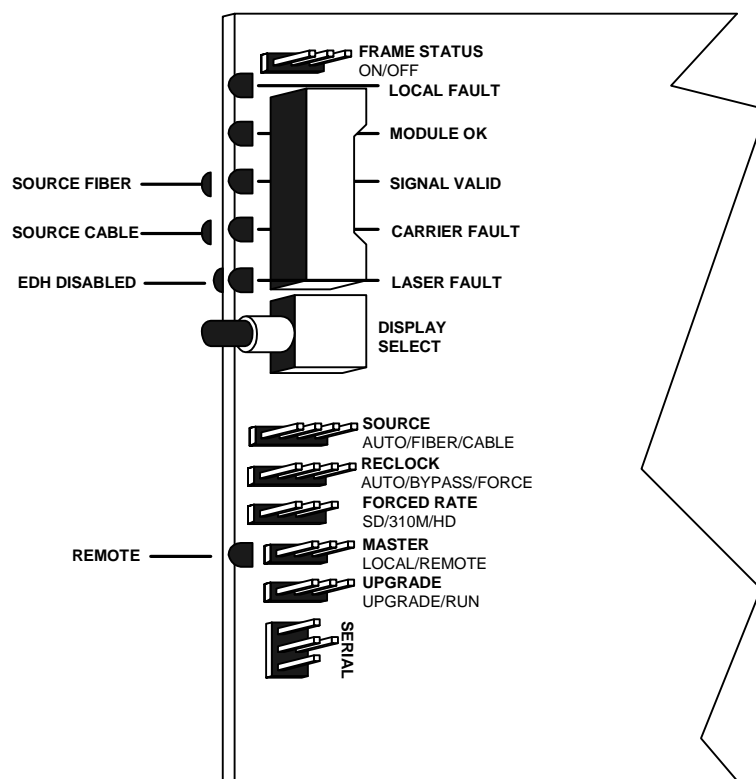

Figure 4-1: 770700 Status Indicator and Jumper Locations
The 770700 has 9 LED Status indicators and a 4 digit alphanumeric display on the front card edge to show operational status of the card at a glance. The card edge pushbutton is used to select various displays on the alphanumeric display. Figure 4-1 shows the location of the card edge status indicators, dot matrix display, pushbutton and jumpers.
Several jumpers, located at the front of the module are used to preset various operating modes. Figure 4-1 illustrates the locations of the jumpers.
NOTE 1: The Rev (A) boards have incorrect labeling for the *RUN* / *UPGRADE* modes. The jumper labels shown in Figure 4-1 are correct. On Rev (A) boards, for normal *RUN* operation set the jumper to the *UPGRADE* position (as shown on the board label - away from the front of the module). For *UPGRADE* operation the jumper must be set to the *RUN* position (as shown on the board label - closest to the front of the board).